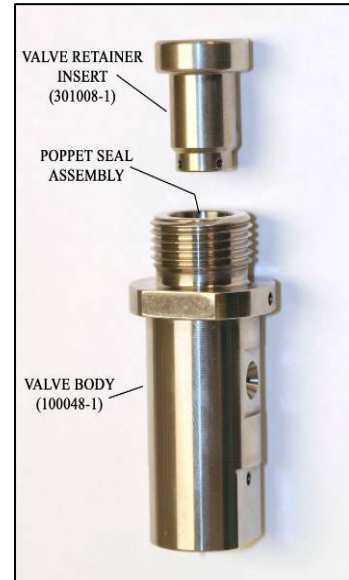

Figure 8
16. Gently slide the Valve Retainer Insert (301008-1) into the top of the Valve Body. In one smooth motion, press the Insert fully into the Valve Body until it bottoms out. **See Figure 8.**